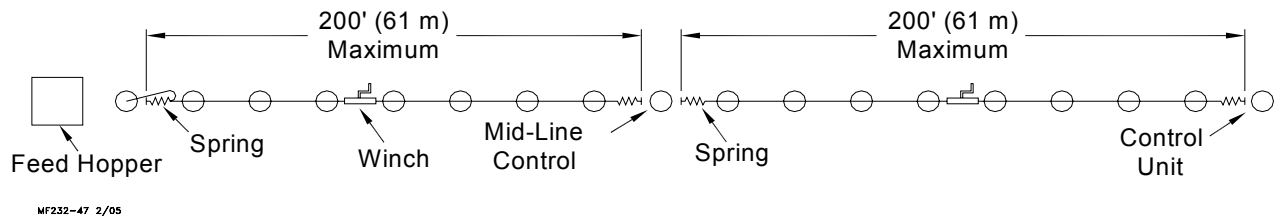
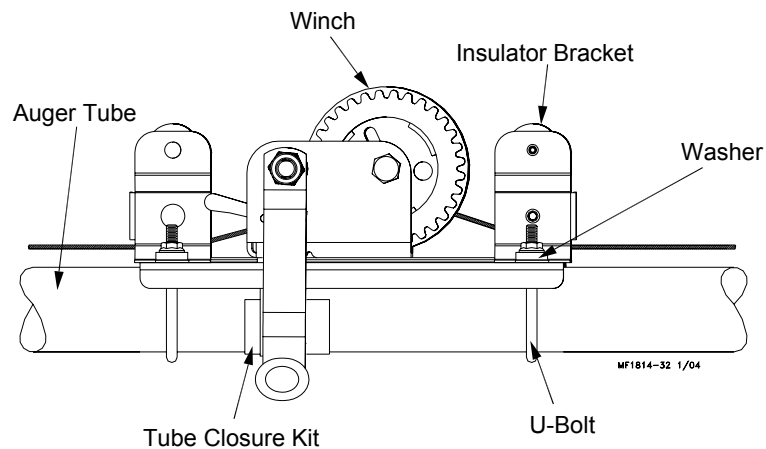
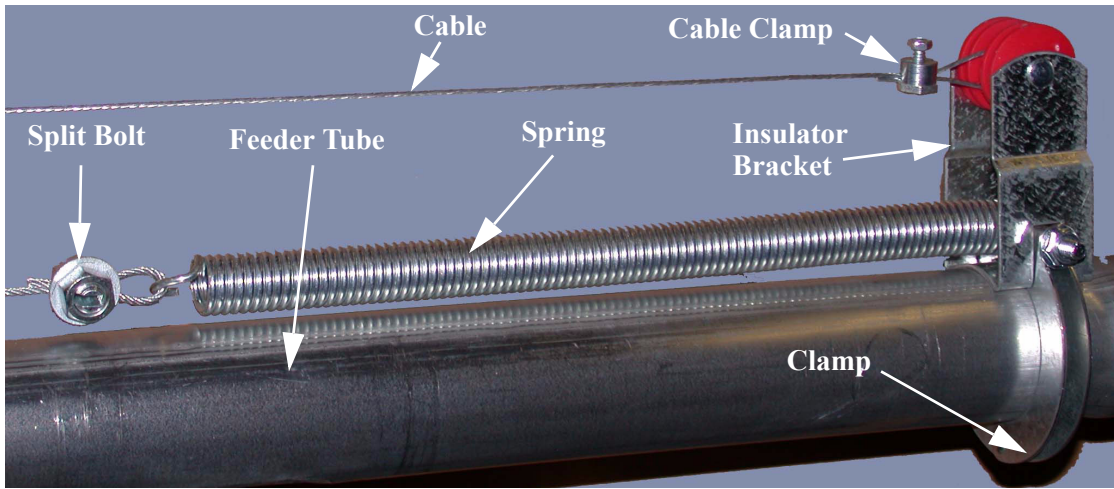

Figure 40. Installation of the Winch Adjustable Feed Level Tube System
Figure 41. Winch Installation
Figure 42. Spring and Insulator Bracket Installation
The feed level cones are adjusted using a winch and cable. The maximum line length for each winch is 200' (61 m). The winch should be located in the middle of the line of feeders it is to adjust, see **figure 40**.
1. Use two U-bolts provided to fasten the winch to the feeder line tube, see **figure 41**. The winch should be placed in the center of the line of feed level cones it will adjust, as shown in **Figure 40**. **THE LINE LENGTH MUST NOT EXCEED 200 FEET (61 M).**
2. Anchor spring to clamp on each side of the winch, see **figure 42**. Attach the tube clamp/spring assemblies to the feeder line tube at a maximum distance of 100 feet (30 m) from the winch, see **figure 40**.
5. Loop the cable around the end of the spring and secure with a split bolt cable clamp, see figure 42.